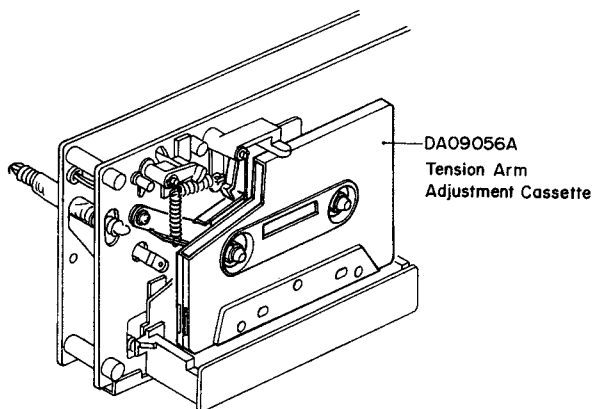
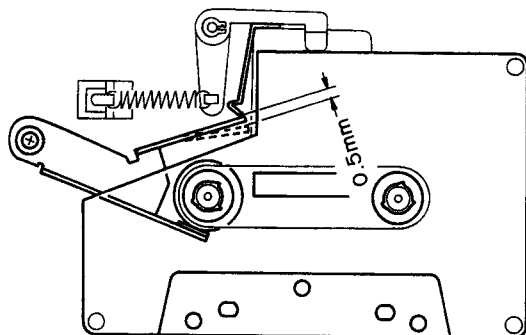

Fig. 4.12
Fig. 4.13
Refer to Figs. 4.12 – 4.14.
- (1) Load a Tension Arm Adjustment Cassette (DA09056A) in the LX-5 referring to Fig. 4.12.
- (2) Set the LX-5 in Play mode.
- (3) Bend the Back Tension Arm with pliers so that the gap between the Cassette Holding Spring assembled on the Head Base Ass'y and the Back Tension Arm becomes 0.5 mm as shown in Fig. 4.13. Do not bend the top of the Back Tension Arm.
- (4) Load the Back Tension Gauge (DA09055A) in the LX-5.
- (5) Set the LX-5 in Play mode and read the torque value of Back Tension Gauge.